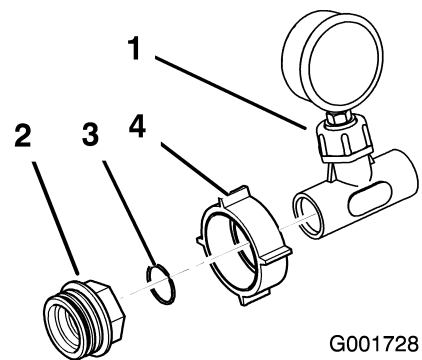

Figure 14
14. Install the large plastic nut over the pressure gauge and tee assembly. Install a plastic O-ring and adapter to the assembly as shown in Figure 14.